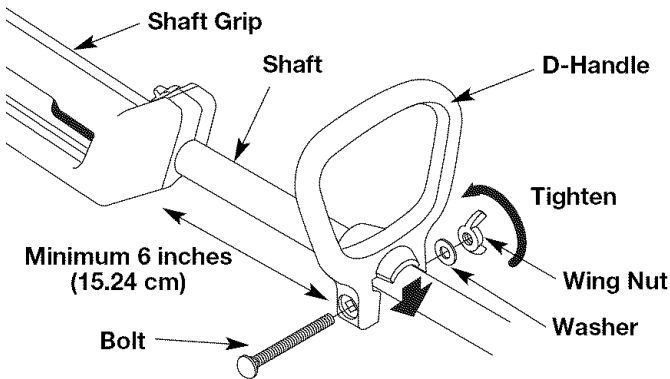

Fig. 1
1. Push the D-handle down onto the shaft so that the handle slants towards the shaft grip (Fig. 1). The squared bolt hole in the handle is to the right.
3. Rotate the D-handle above the top of the shaft as shown in Figure 1. Place it a minimum of 6 inches (15.24 cm) from the base of the shaft grip.